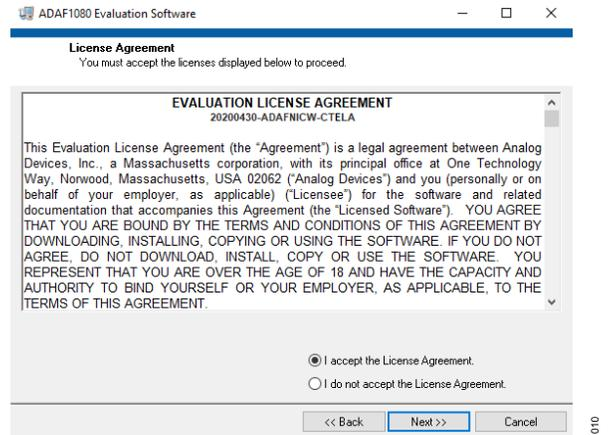

Figure 10. License Agreement Window
5. When installing the **EVAL-ADAF1080SDZ Evaluation Software**, it is a requirement to read and accept the license agreement shown in **Figure 10**, and then click **Next** to proceed.